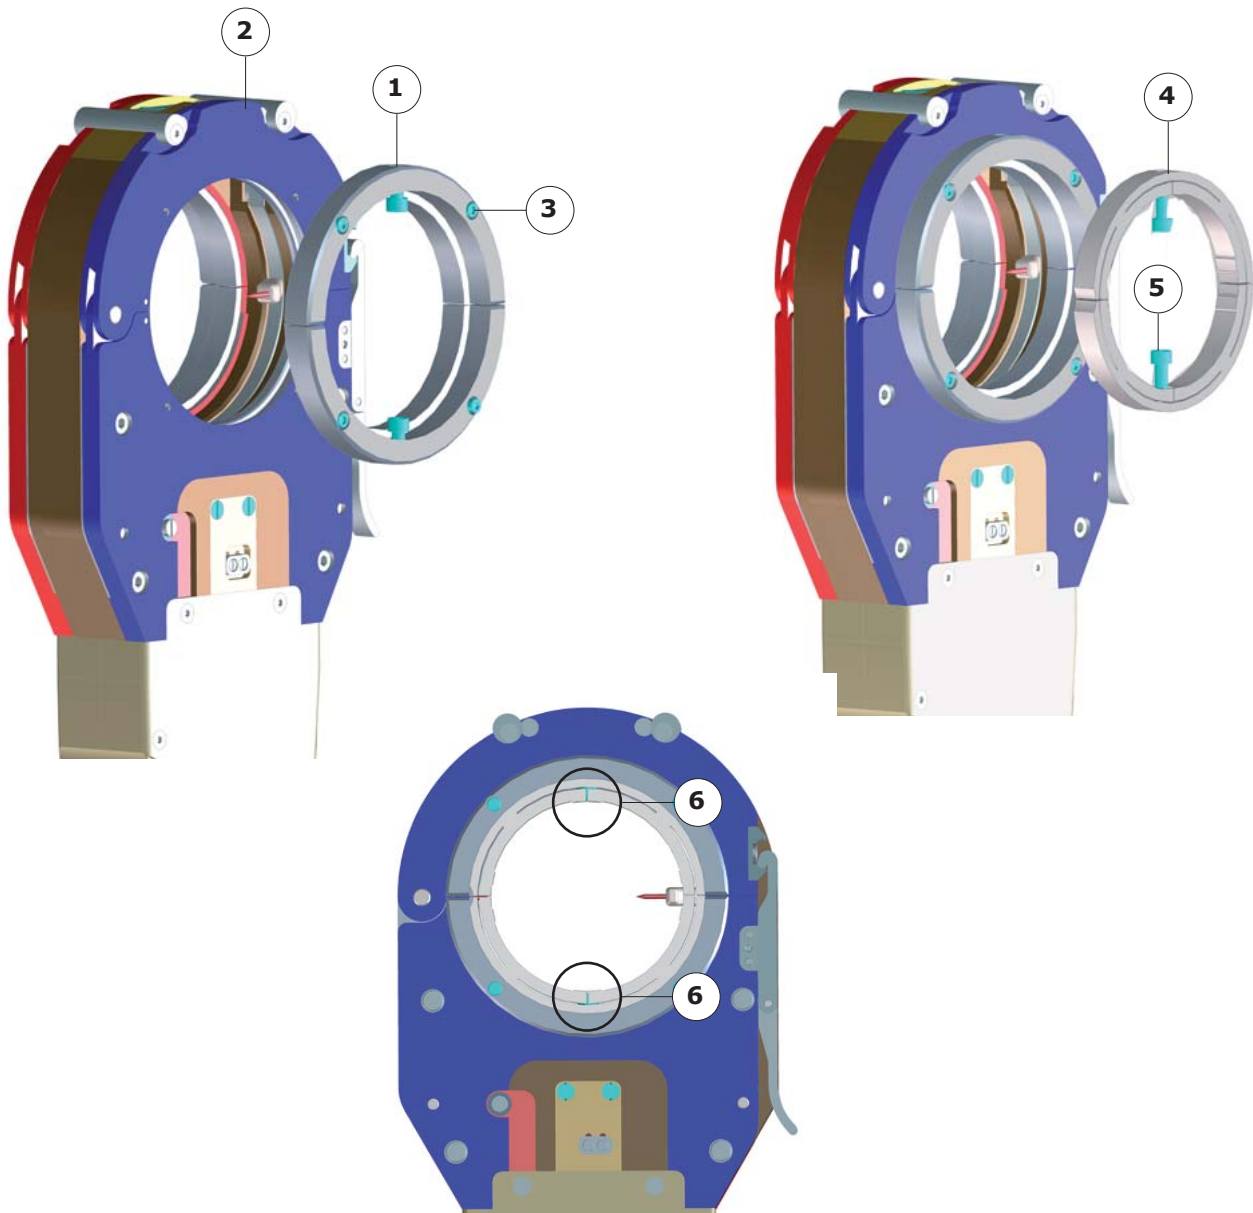
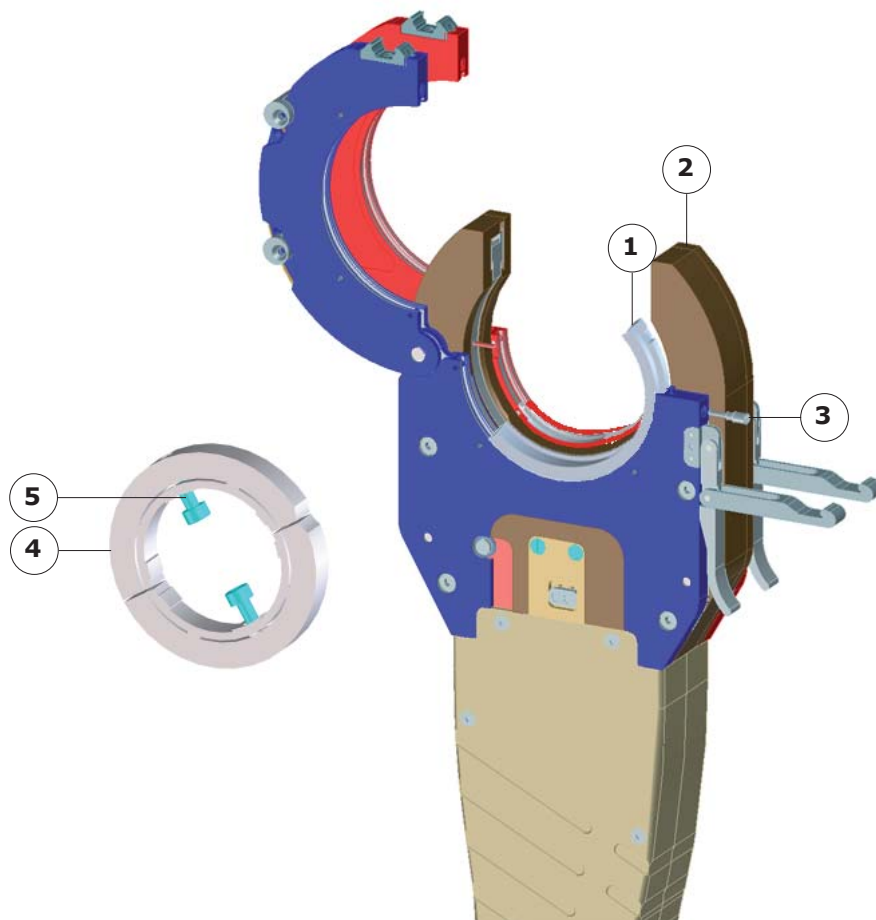

Fig.5.15 - Installing the adapter kits on the heads MW 65-3 and 115-3
Fig.5.16 - Installing the adapter kit on the head MW 40-3
- Place the adapter kit (Fig.5.15 - item 1) on the head (Fig.5.15 - Rep. 2).
- Set the head to the 4 screws (Fig.5.15 - Rep.3).
- Place the shell TCI (Fig.5.15 - Rep.4) on the adapter kit, set the 2 screws (Fig.5.15 - Rep.5). Screws (Fig.5.15 - Rep.5) must absolutely not exceed the shell (Fig.5.15 - Rep.6).
- Place the first element of the adapter kit (Fig.5.16 - item 1) on the head (Fig.5.16 - Rep. 2).
- Lock the element into the screw (Fig.5.16 - Rep.3).
- Place the shell TCI (Fig.5.16 - Rep.4) on the adapter kit, set the 2 screws (Fig.5.16 - Rep.5).
Screws (Fig.5.16 - Rep.5) must absolutely not exceed the shell (Fig.5.15 - Rep.6).